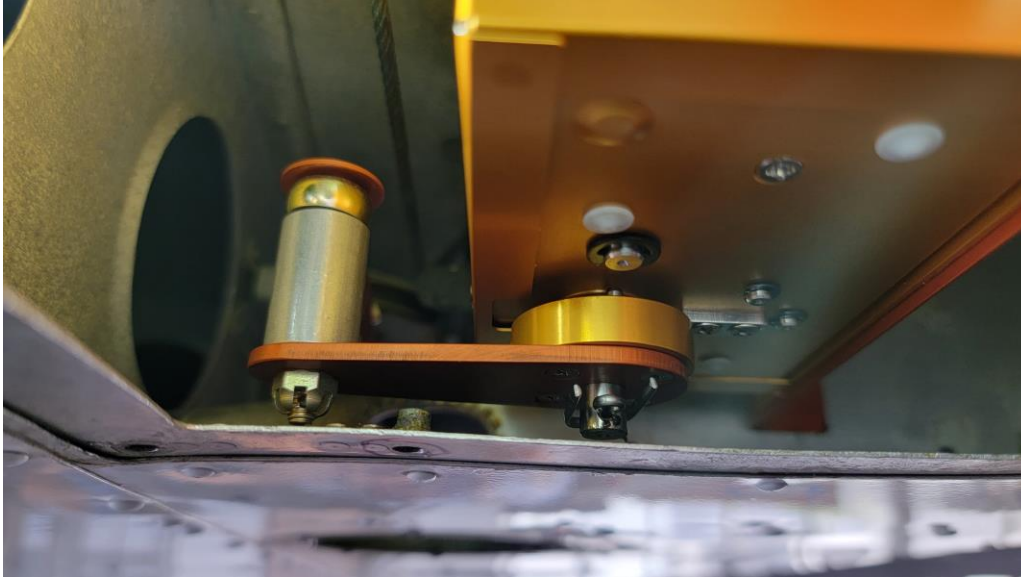

FIGURE 2-9 ROLL SERVO HARDWARE
23. Completely install roll servo and bellcrank hardware. Refer to Figure 2-9 & 2-10.